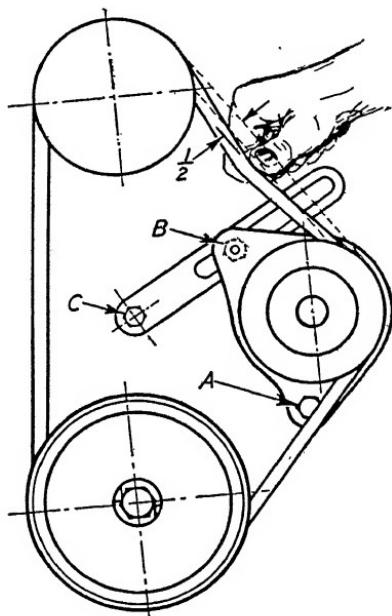

Fig. 15. Buick Fan Belt Adjustment
*Buick Fan Belt.* A V-type belt, illustrated in Fig. 15, is used as the water pump fan and generator from a pulley attached to the front end of the crankshaft. It is necessary that the belt be adjusted so that it will deflect approximately  $\frac{1}{2}$  inch, as shown in Fig. 15. Only a light pressure should be required to secure this deflection. If the belt is too loose, it will slip and wear excessively. The loose belt may also cause a noise similar to a spark rap at high speed. If the fan belt is too tight, the generator and pump shaft bearings will wear rapidly. The Series 40 fan belt is  $2\frac{5}{32}$  inch wide and the Series 60 - 80 - 90 fan belt is  $2\frac{9}{32}$  inch wide.
When adjusting the fan belt, first loosen the lower and upper generator clamp bolts shown at *A*, *B*, and *C*, Fig. 15, a slight amount. Next, adjust the fan belt tensions to  $\frac{1}{2}$  inch, as shown, securing this deflection between the generator and fan pulleys. Next, retighten the upper clamp bolts *B* and recheck for tension. Finally clamp bolts *A*, front and rear, and *C*.